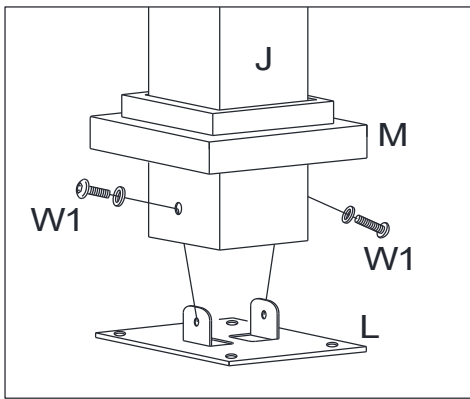

Fig.1
1. Insert the Base Cover (M) into Post (J), and then attach Post (J) to Base (L) with Bolt (W1). See Fig.1.